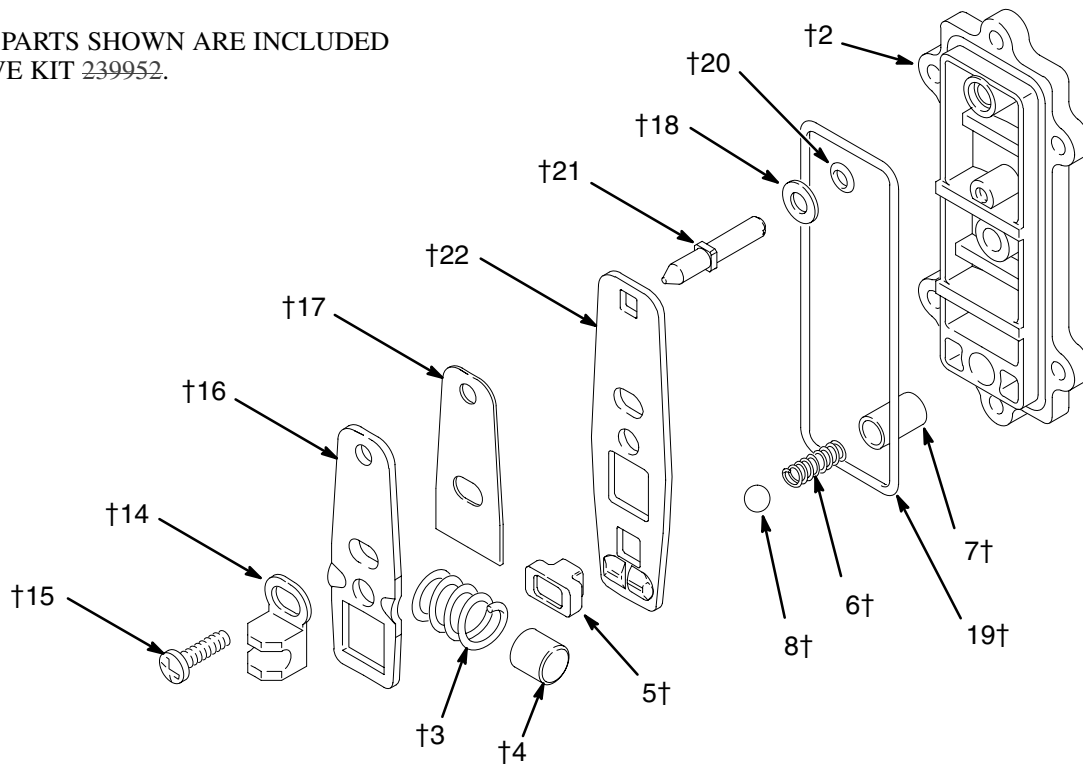

Fig. 11
3. Remove the screw (15) and shift saddle (14). See Fig. 11.
4. Disassemble the link assembly, consisting of the actuator link (16), spacer (17), detent link (22), spring (3), stop (4), and valve cup (5).
5. Remove the detent ball (8) and spring (6). The detent collar (7) is a press-fit and should not need removal; if it does require replacement, you should also replace the cover (2).
6. Remove the reset shaft (21), o-ring (20) and washer (18).